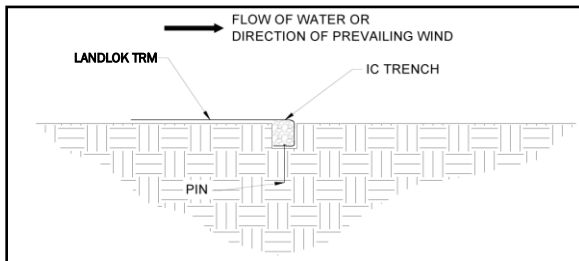

Figure 7: Initial Channel (IC) Trench Complete
5. Fold the LANDLOK panel over the top of the compacted IC trench (Figure 7) and place each panel end into the respective COS trenches.